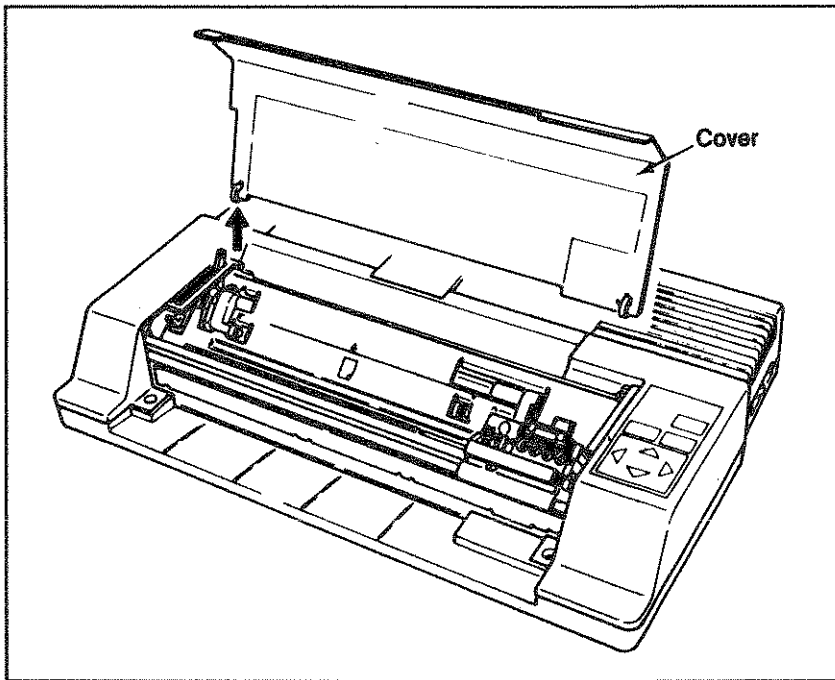

Figure C-2. Removing the plastic cover
2. Remove the smoked-plastic cover to expose the two retaining screws located at the front of the plotter (Figure C-2).